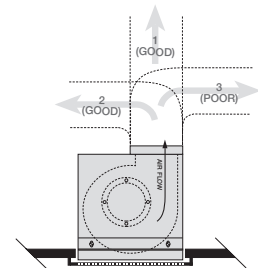

Fig. 12
3. Installation of ductwork is critical to the performance of the fan, shown in Fig. 12. Straight ductwork (1) or ductwork that turns in the same direction as the wheel (2) is recommended. Ductwork turning opposite the wheel direction (3) will cause turbulence and back pressure resulting in poor performance.